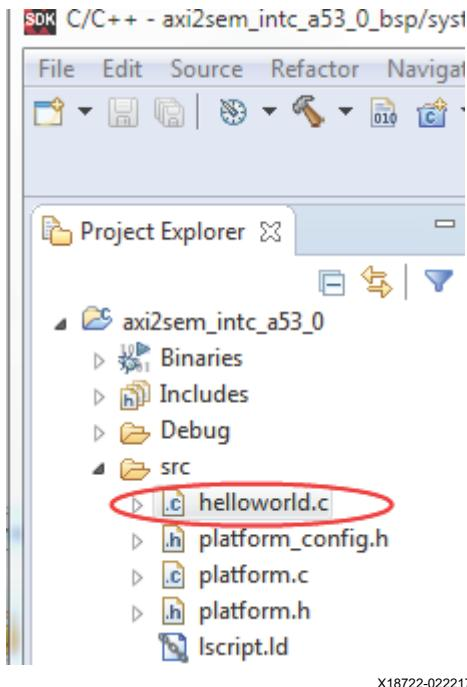

Figure 14: Delete Hello World
- d. Right-click **helloworld.c** and select **Delete** in the project explorer. See Figure 14.